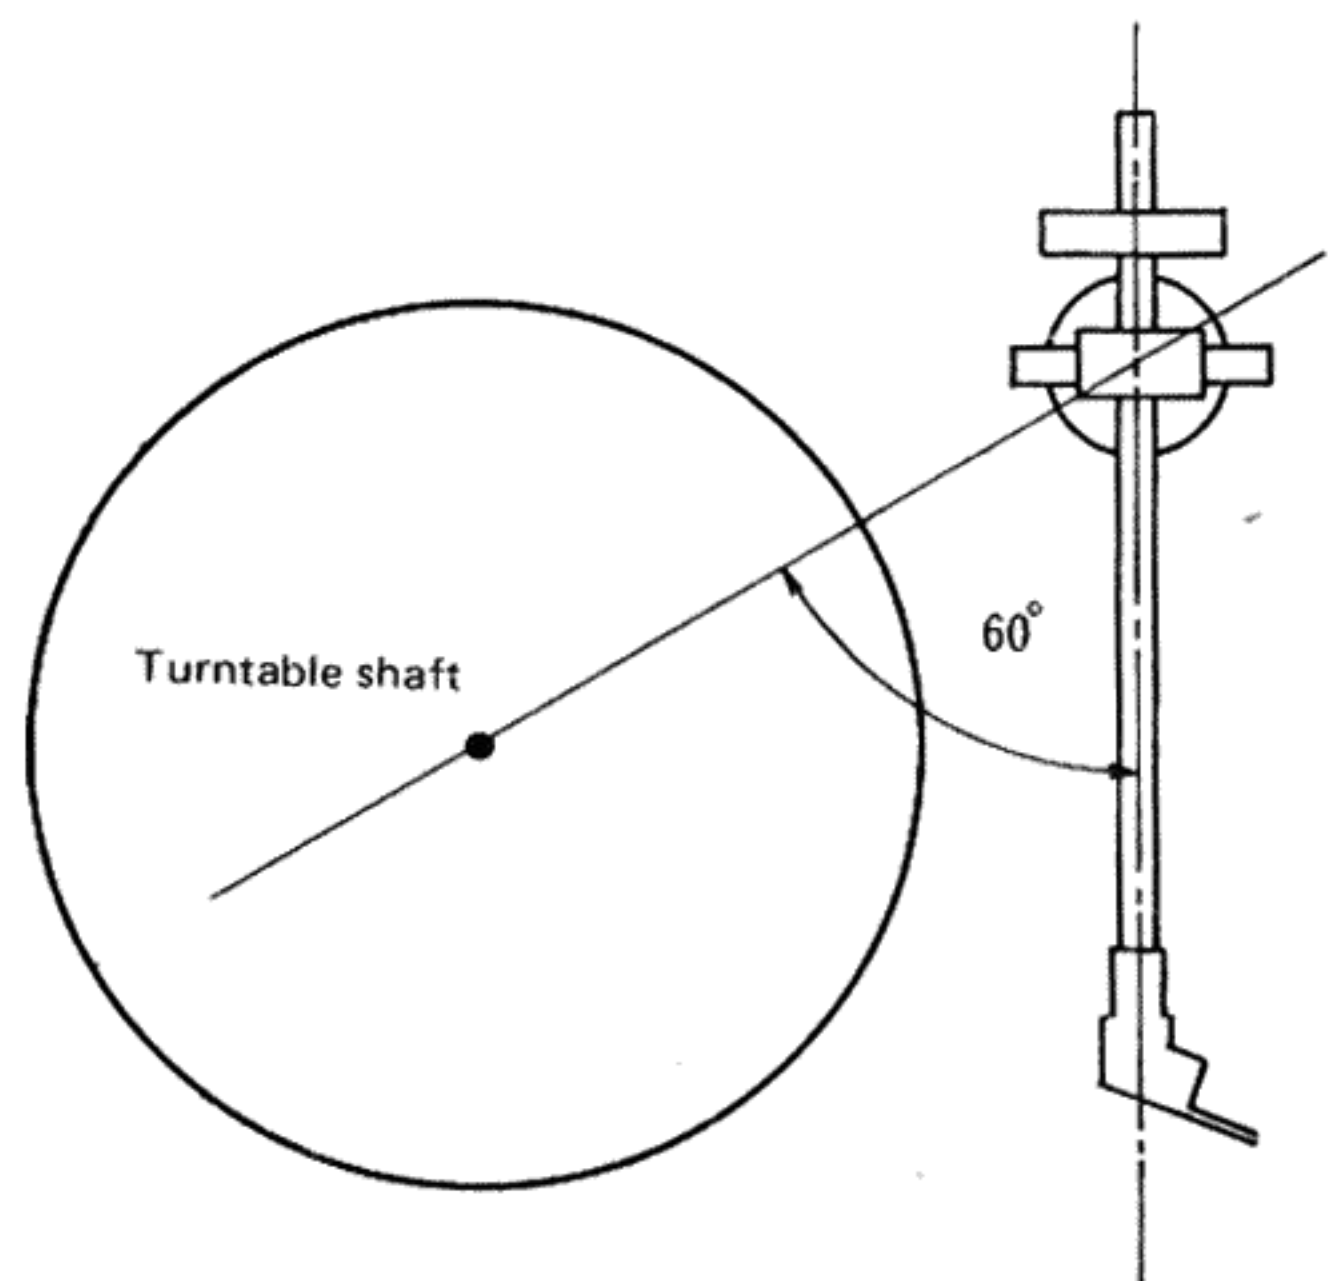

Fig. 2
6) Set the tonearm at an angle of 60° as shown in fig. 2, and secure it.